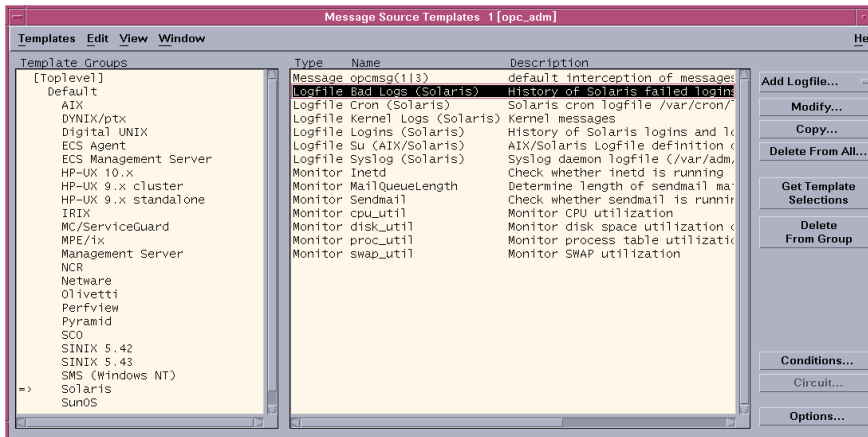
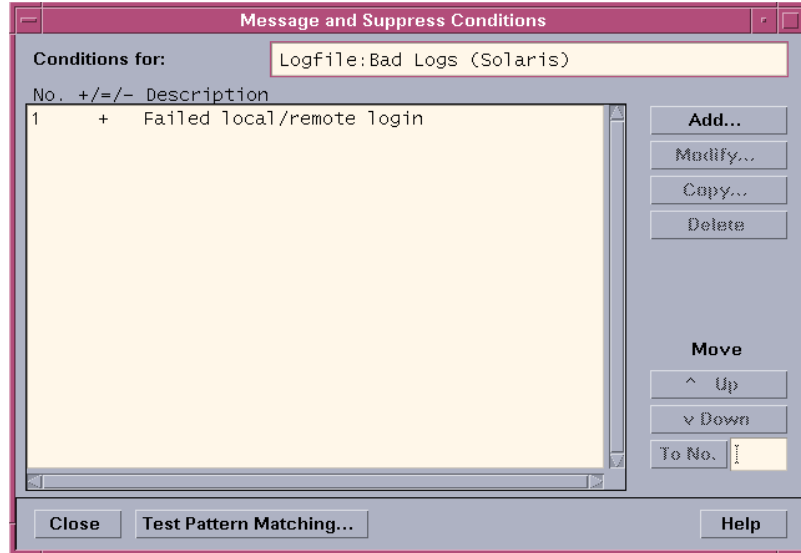

Figure 5-6. Message Source Templates window: Right pane navigation
Figure 5-7. Message & Suppress Conditions window
- The right pane displays the unique Message Source Templates in a selected group (Figure 5-6). Navigate the groups by clicking on items to show values in the right pane or double-clicking to expand items in the left pane.
The right pane contains the members of the selected group (Figure 5-6). For the **Solaris** group, there is a **Logfile Bad Logs (Solaris)** item. When this item is selected, it activates the **Conditions** button. Press this button to edit the configuration of the Logfile Bad Logs (Solaris) template. This displays the Message & Suppress Conditions window (Figure 5-7).